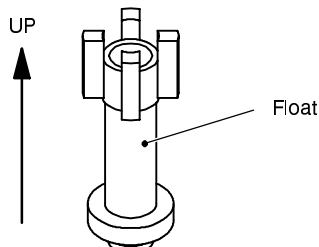

fig. 67
- 5 Insert the float carrying out the removal operations in reverse sequence, keeping in mind the direction of the insertion (fig. 67).